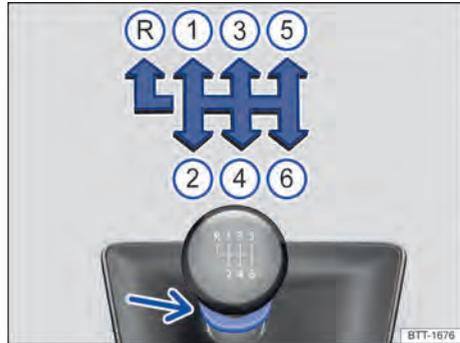

Fig. 102 Gear shift pattern of a 6-speed manual gearbox
The positions of the individual gears are shown on the gear lever → Fig. 102.
3. Pull the ring on the gear lever upwards and push the gear lever fully to the left and then forwards into the reverse gear position → Fig. 102 .